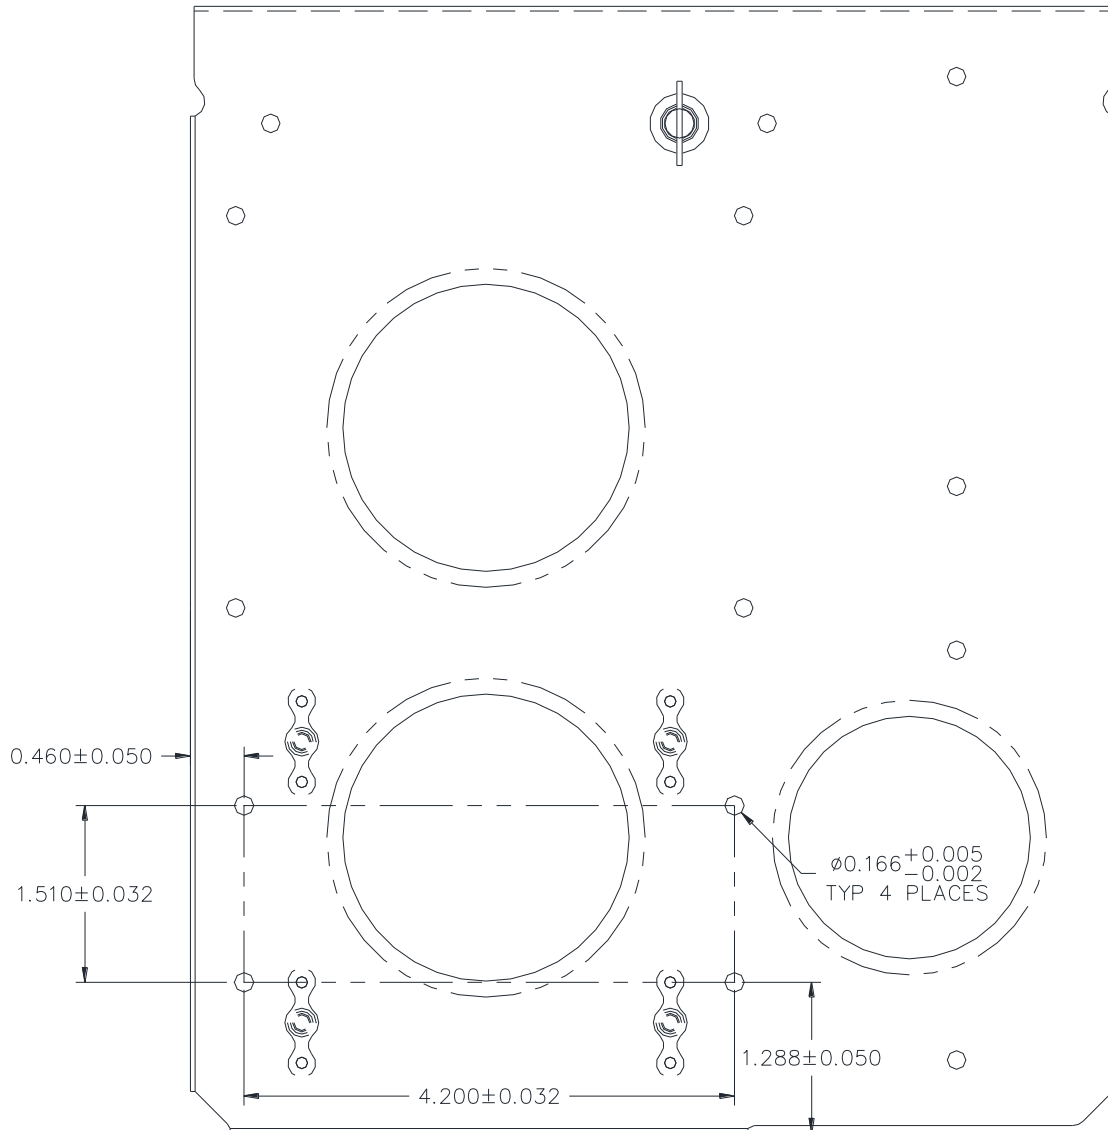

Figure 3 – Hole locations for Plane Power voltage regulator.
15. Drill four holes into the Caution Unit Tray as specified by Figure 3. Deburr holes.